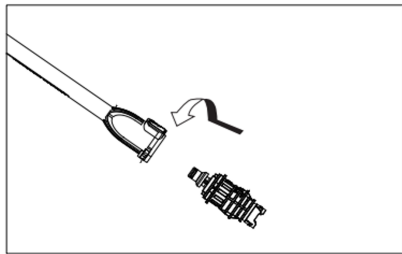

Figure 8: How to connect the Adjustable Nozzle (6) to the Lance (5)
Connect the Adjustable Nozzle (6) to the end of the Lance (5) by pushing them together until there is a click sound, as shown in Figure 8. Note the tabs to align the pieces together. To remove the Adjustable Nozzle (6) press the red Nozzle Release button on the Lance (5) and pull the two pieces apart.